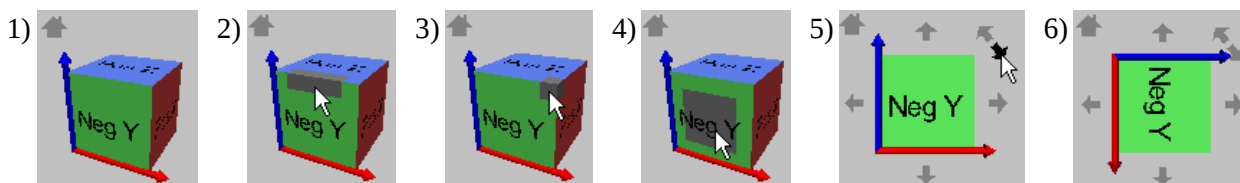

Figure 3.3 Use of the navigation cube
- **Clicking the navigation cube** in the lower left corner of the display area. Figure 3.3 shows the navigation cube in various situations: 1) initially, when positioning the mouse on the 2) edge, 3) corner and 4) side (click these to view the model from that position), 5) after clicking the side 'Neg Y' (in this situation arrows for rotation appear), and 6) after clicking the arrow for rotating 90 degrees clockwise.